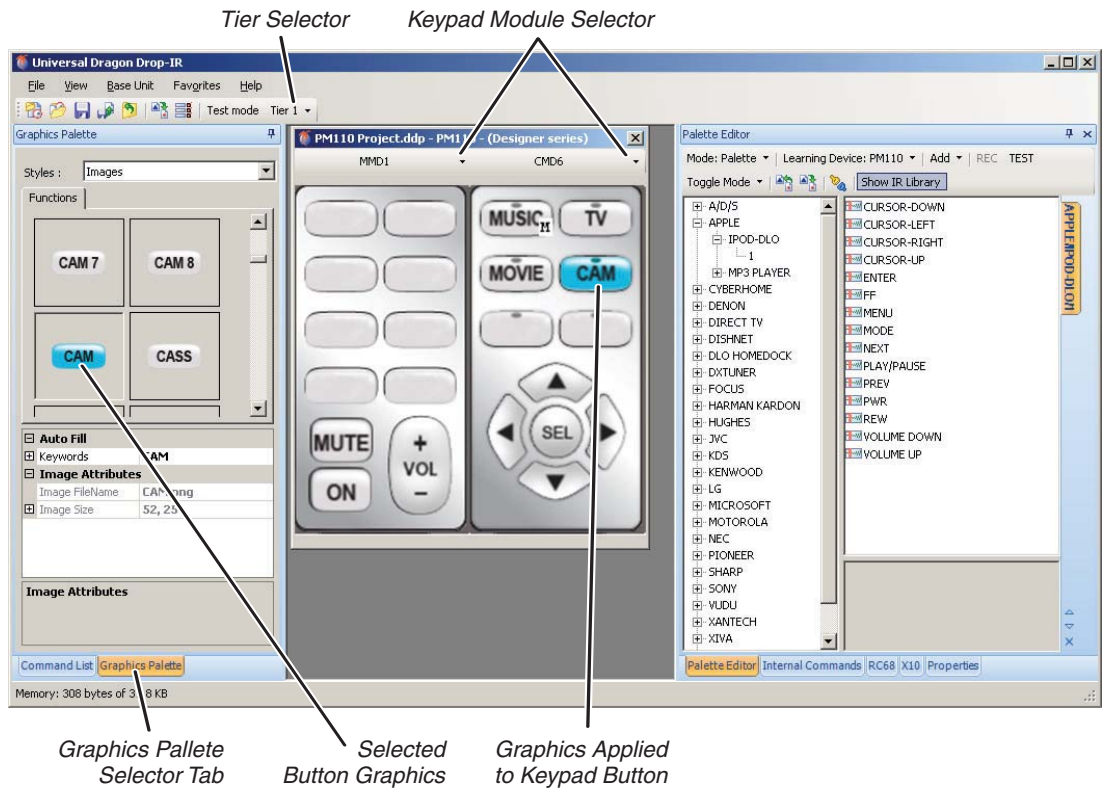

Figure 10: Smartpad 3 keypad programming screen (with MMD1 and CMD6 keypad modules), showing button graphic programming
After selecting the appropriate base module using the *New Project* icon or menu tab, use the *Key Module Selector(s)* to select the particular keypad modules you are inserting into the base module (see *Figure 10*).
1. Select the *Graphics Palette* tab. The Macro Window will convert to the Graphic palette window (see *Figure 10*).
2. Select the desired button graphic and drop it onto the keypad button (see *Figure 10*).